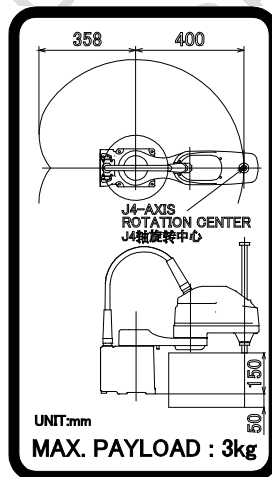

Fig. 5 (b) Operating space and payload label (Example of SR-3iA)
(3) Grease caution label**Fig. 5 (c) Caution label****Description**